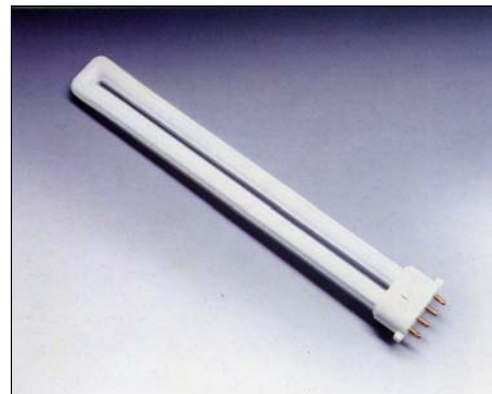

Fig 46 CFL – four pin.
- 1) The fluorescent tube alone. This can be identified by a lampbase with four pins. This requires an external starter and ballast, just like the linear lamp. This format is suitable for the more complicated electrical circuits such for emergency lighting or dimming. (Fig 46)